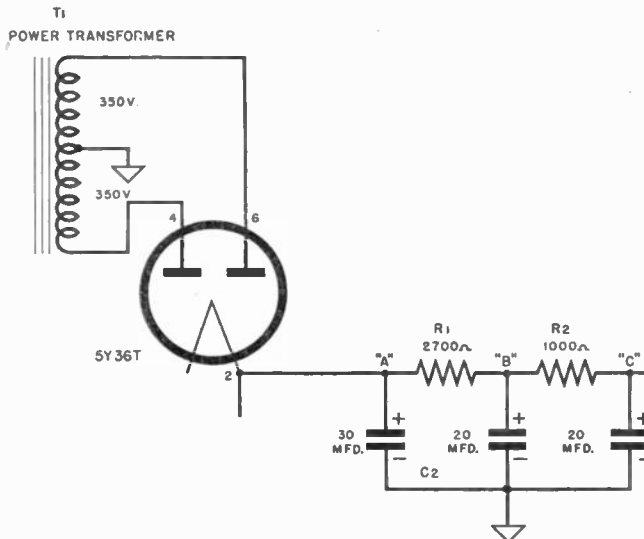
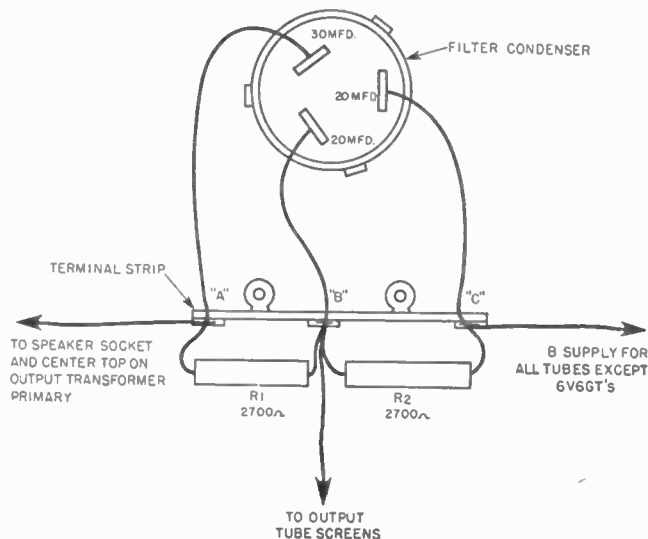

Fig. 2-31. Wiring the power supply.
Fig. 2-32. Wiring the filter resistors and condensers.
b) Power Supply. See Figure 2-31. Wire as shown in the sketch. The high voltage leads will probably be red, the center tap red and yellow. Be sure to connect the three units of the filter condenser exactly as shown. The coding of the sections will be marked on the condenser can. Refer to Figure 2-32 for additional details on the wiring of the filter resistors and condensers.